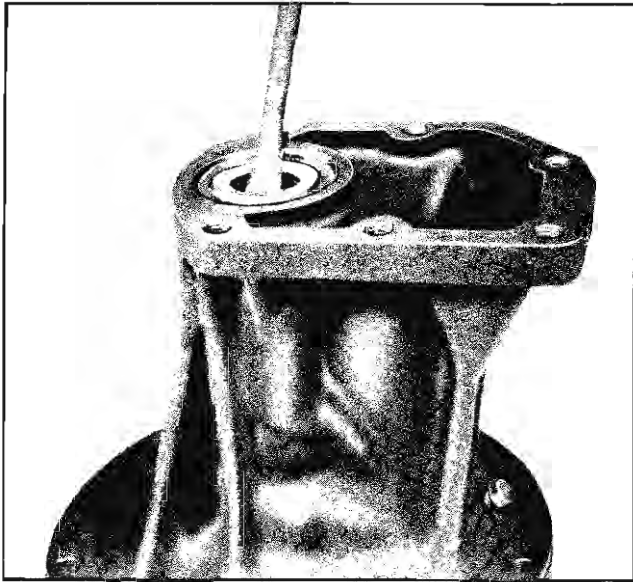

Fig. 7A-46 Removing Extension Housing Oil Seal (V-8)
a. Clearance between OD of driven gear and body should be .0025"-.005" (Fig. 7A-48).
b. Clearance between driven gear and crescent should be .0025"-.005" (Fig. 7A-49).
c. With scale and feeler gauge check gear end clearance. This clearance should be .0005"-.0015" (Fig. 7A-50).